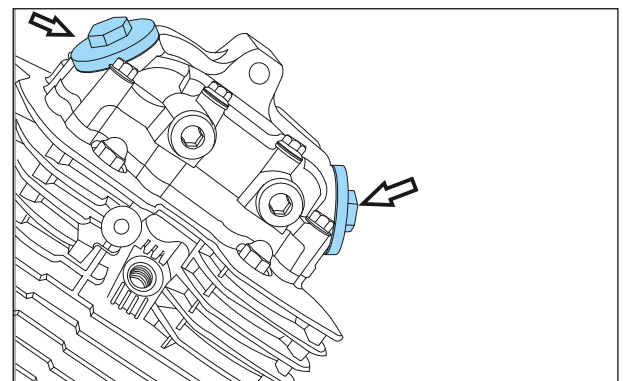

Fig. 3.158
- Assemble and tighten the 2 nos. cap inspection hole along with 'o' ring. (Fig. 3.158)